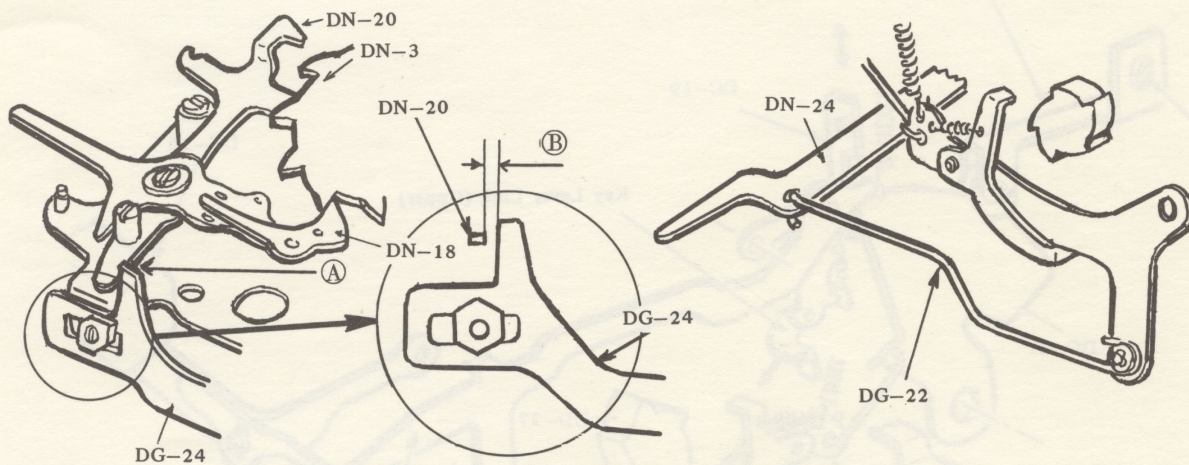

Fig. 26
- (1) Adjust the clearance ② between DG-24 (Space Bar Connecting Link Unit) and DN-20 (Half Space Ratchet) to obtain 0.1 to 0.3 mm by bending DG-22.
Too narrow clearance ② may result repeating by Space Bar, and excessive clearance may result missing of Escape. (Fig. 26)